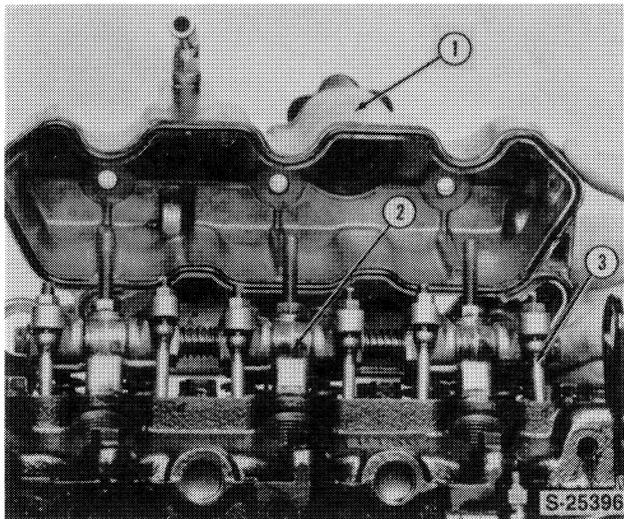
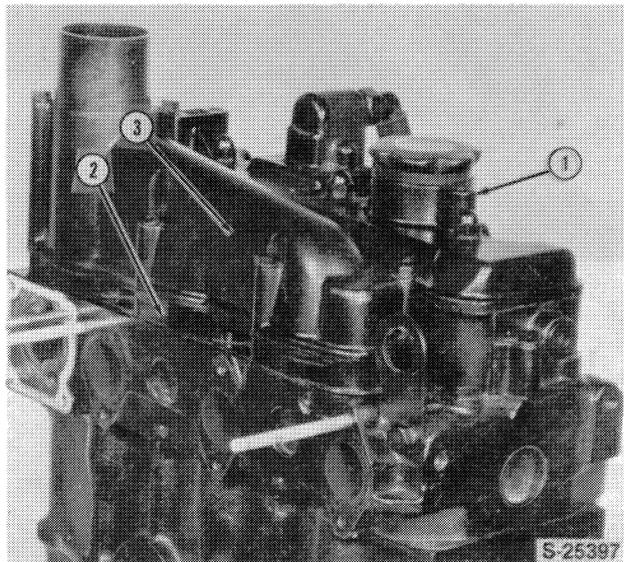

Figure 9
Figure 10
14. Remove the rocker cover and intake manifold assembly (1) from the cylinder head on the Model CM224, Figure 9. On the Model CM274 the rocker cover (1) and intake manifold (3) with spacer (2) must be removed, Figure 10.